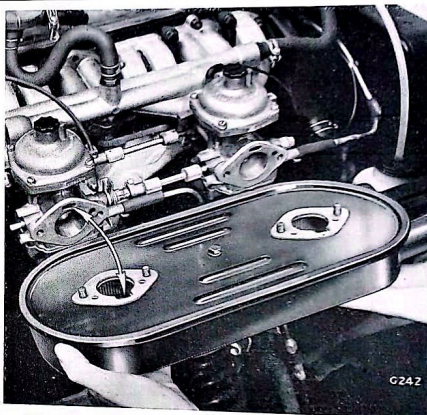

Fig. 16. Showing the position of slots relative to the carburettor flanges
Renewing the gaskets (4), (6) and (8) as necessary, re-assemble the air cleaner by reversing the foregoing procedure, and note the position of the slots relative to the carburettor flanges as shown on Fig. 16.